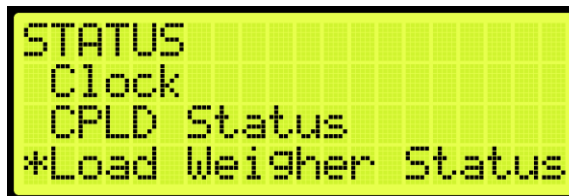

Figure 35: STATUS Menu – Load Weigher Status
11. From the DEBUG menu, scroll and select Load Weigher (See Figure 35).